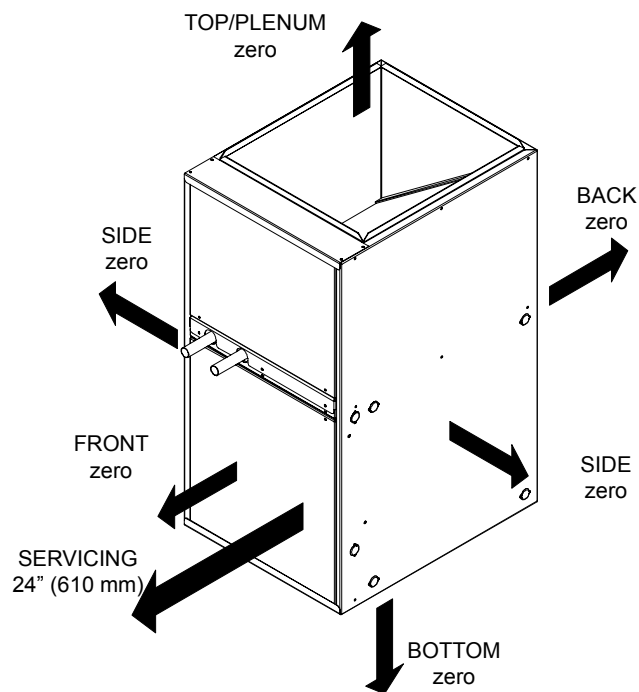

Figure 2: Minimum Clearance to Combustible Construction
7. The installer shall provide ample space for servicing and cleaning. Always comply with minimum clearances as shown in Figure 2.